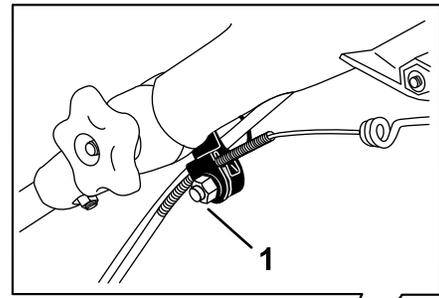

Figure 45
1. Loosen the nut on the cable mount (Figure 45).